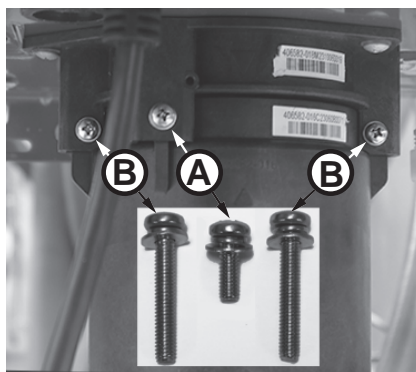

Figure 226 - Identify cartridge screws
- 6 Locate the three (3) screws securing the X3®/Bypass cartridge as shown in Figure 226. Remove the (A) M4-12mm screw and the two (B) M4-25mm screws from cartridge. Place screws aside in a safe place for reinstallation.